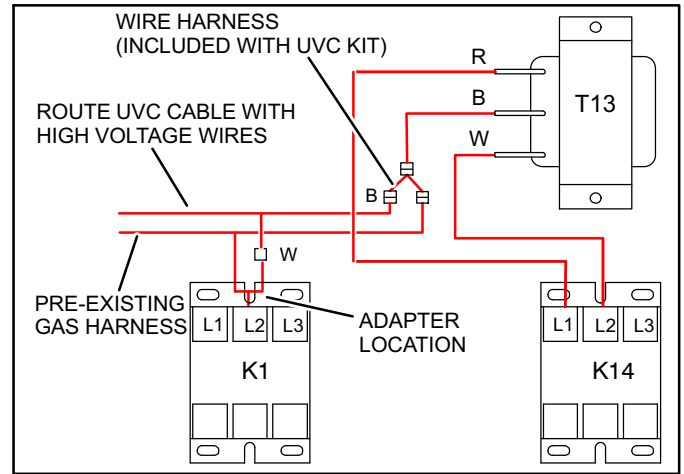

Figure 7. Connect cable to transformer T13 (575 Volt units)
- C** For 575V rooftop models with T13 transformer (for gas heat), connect the black conductor of the ballast power cable to the black conductor of the T13 transformer using the wire harness provided in the kit (see figure 7). Connect the white conductor of the ballast power cord to the L2 terminal of the K1 contactor using the adapter provided in the kit.